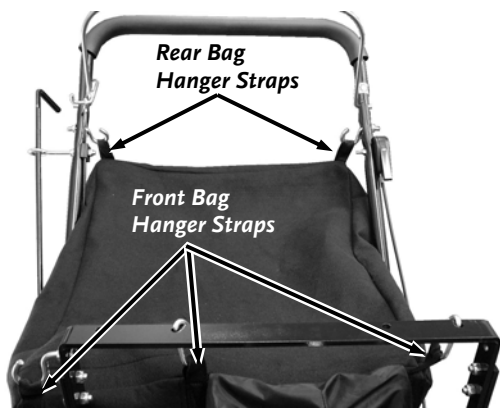

Figure 16
17. Locate the two Bag Hanger Straps on the rear (zipper end) of the Bag. Attach the two Straps to the Hooks near the top of the Handlebar (**Figure 16**).